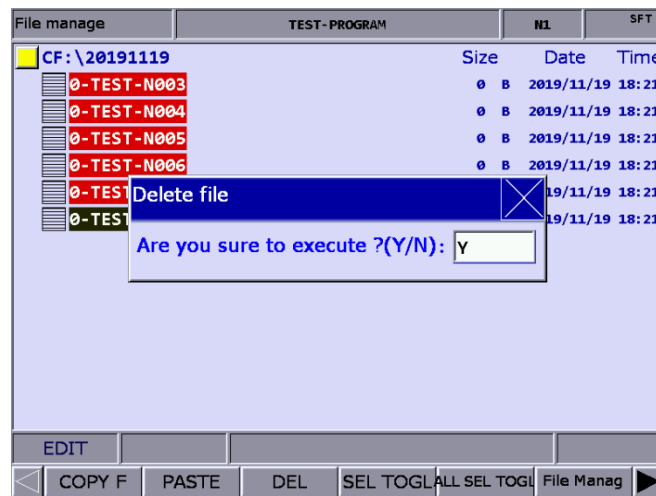

Figure 7.6.3
- (5) After selecting the files, press **DEL**, and a dialog box appears for you to confirm the execution (as shown in Figure 7.6.3). Enter “Y” and press **ENTER** to delete.